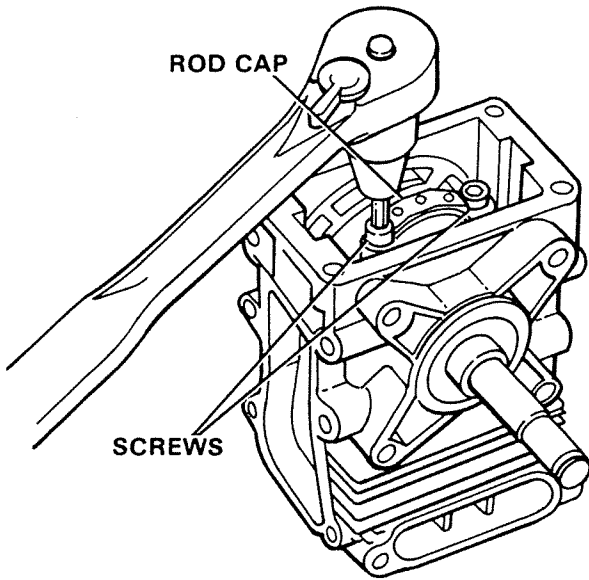

Figure 10. Disconnecting Crankshaft.
10. Disconnect crankshaft from connecting rod by removing connecting rod screws, rod cap and needle bearings. Figure 10.